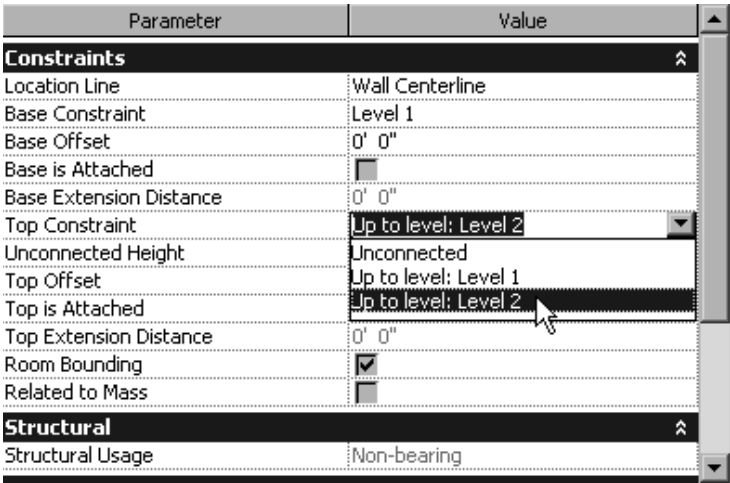

Figure 3-26 Setting the **Top Constraint** parameter using the **Instance Properties** dialog box
- d. Modify **Top Constraint- Up to level: Level 2** and **Location Line - Wall Centerline** as wall properties using the **Element Properties** button, refer to Figure 3-26.
- e. Invoke the **Line** sketching tool and then sketch the exterior walls based on the given parameters, refer to Figures 3-26 through 3-35.
- 2. Make sure that the **Location Line** parameter has **Wall Centerline** as the default value. Click on the field under the **Value** column for the **Top Constraint** instance parameter; a drop-down list is displayed. Select **Up to level: Level 2** from this drop-down list, as shown in Figure 3-26. Exit the dialog box by choosing the **OK** button to return to the interface screen.